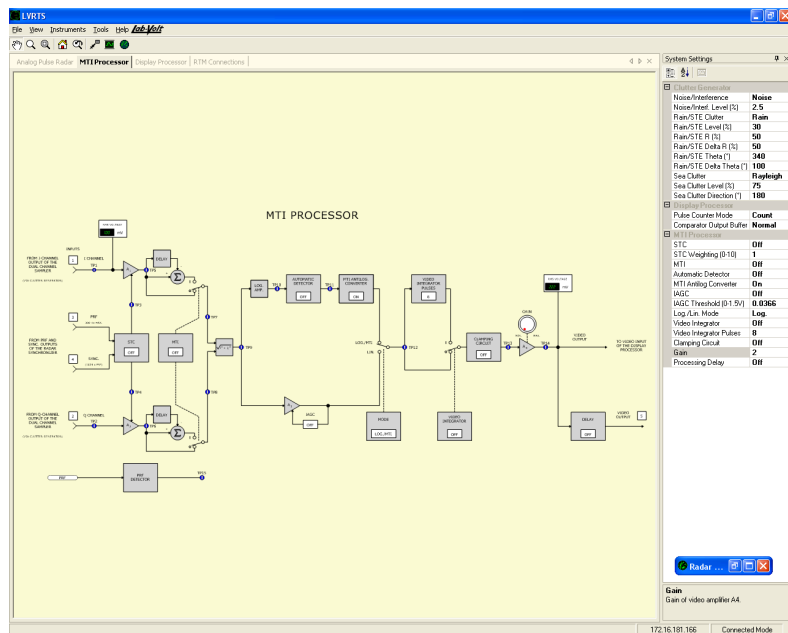

Figure 6. On-screen block diagram of the Moving Target Indicator (MTI) processor.
- Display the functional block diagrams of the complete radar and radar processor/display subsystem (see Figure 6).